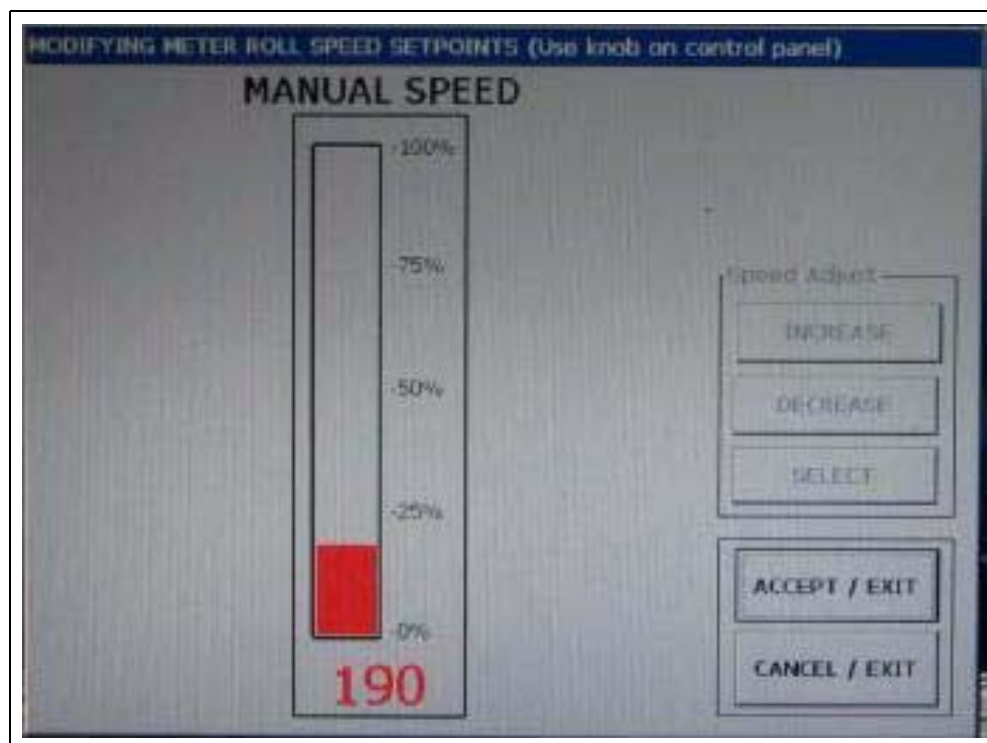

Figure 8A
11. Look in the reference setting tables on Pages 43-48 and select the appropriate table for the dryer and grain moisture levels. Turn the Unload Auger switch to MANUAL position. The unload auger and metering system will start discharging grain from the dryer. Push the Metering Roll Speed switch and turn the knob to adjust the speed to that suggested in the setting tables. (**NOTE:** *Make sure to press the "Accept/Exit" button on the Metering Roll screen when changing metering roll speed to lock in the new speed.*) (See Figure 8A on Page 38.)